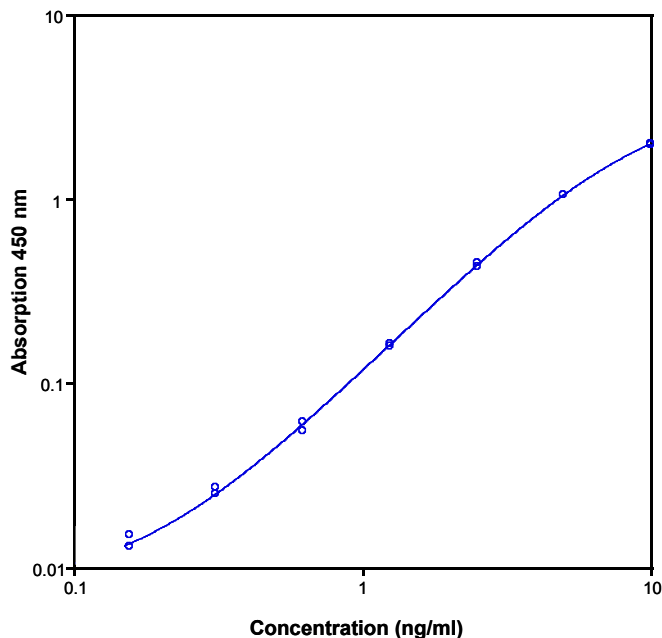

Fig. 7 Representative standard curve for human TNF-R (80 kDa) ELISA. Human TNF-R (80 kDa) was diluted in serial 2-fold steps in Assay Buffer (1x).
- A representative standard curve is shown in Figure 7.